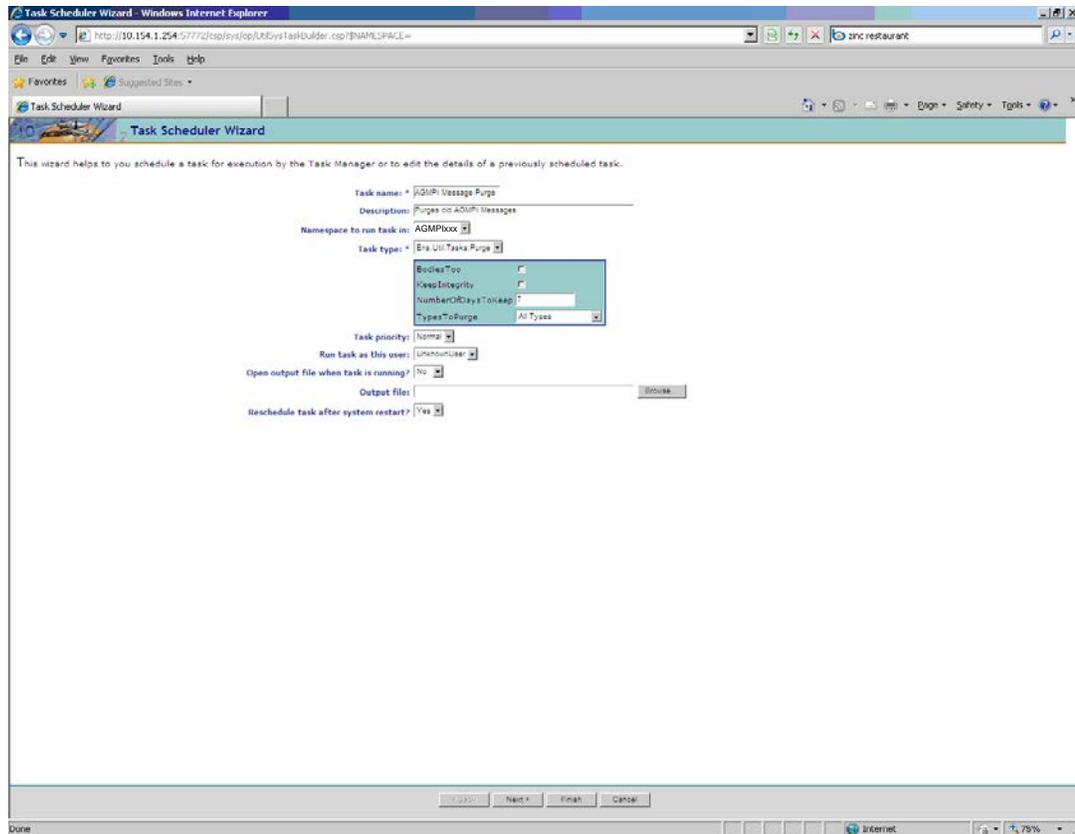

Figure C-4: **Task Scheduler Wizard** page
1. Click the **Schedule New Task** option to start the **Task Scheduler Wizard**, as shown in Figure C-4.